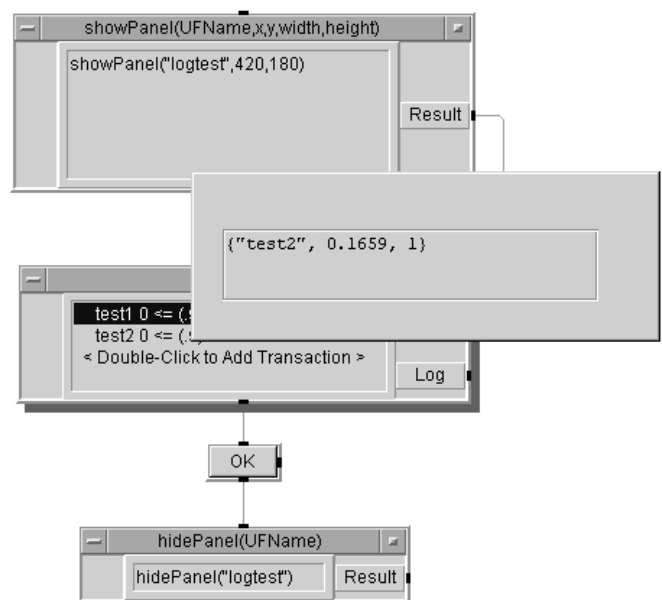

Figure 251 The Status Panel Program (running)
- 7 Run the program. It should look like Figure 251.